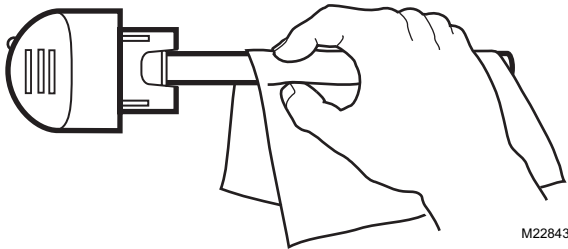

Fig. 12. Clean glass with soft cloth.
4. Holding the lamp handle, wipe the lamp glass using a soft cloth dampened with window cleaner. If you touch the lamp glass with your hands, be sure to clean the area of any oils left from bare hands. See Fig. 12.